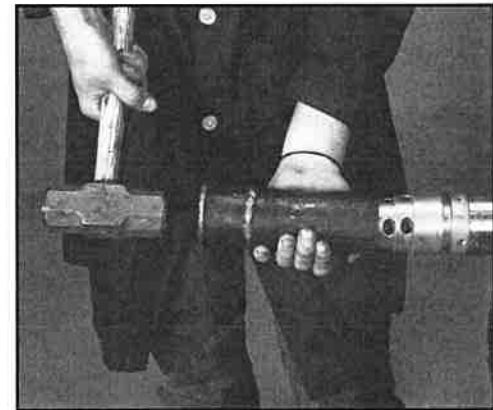

FIG. 31: USING PIPE TO SECURE STEPPED CONE
13. Push the stepped-cone onto the chisel. Make sure that the holes in the stepped-cone line up with the roll pin grooves on the chisel. A piece of pipe and hammer may be needed to drive the stepped-cone on properly (see Fig. 31).